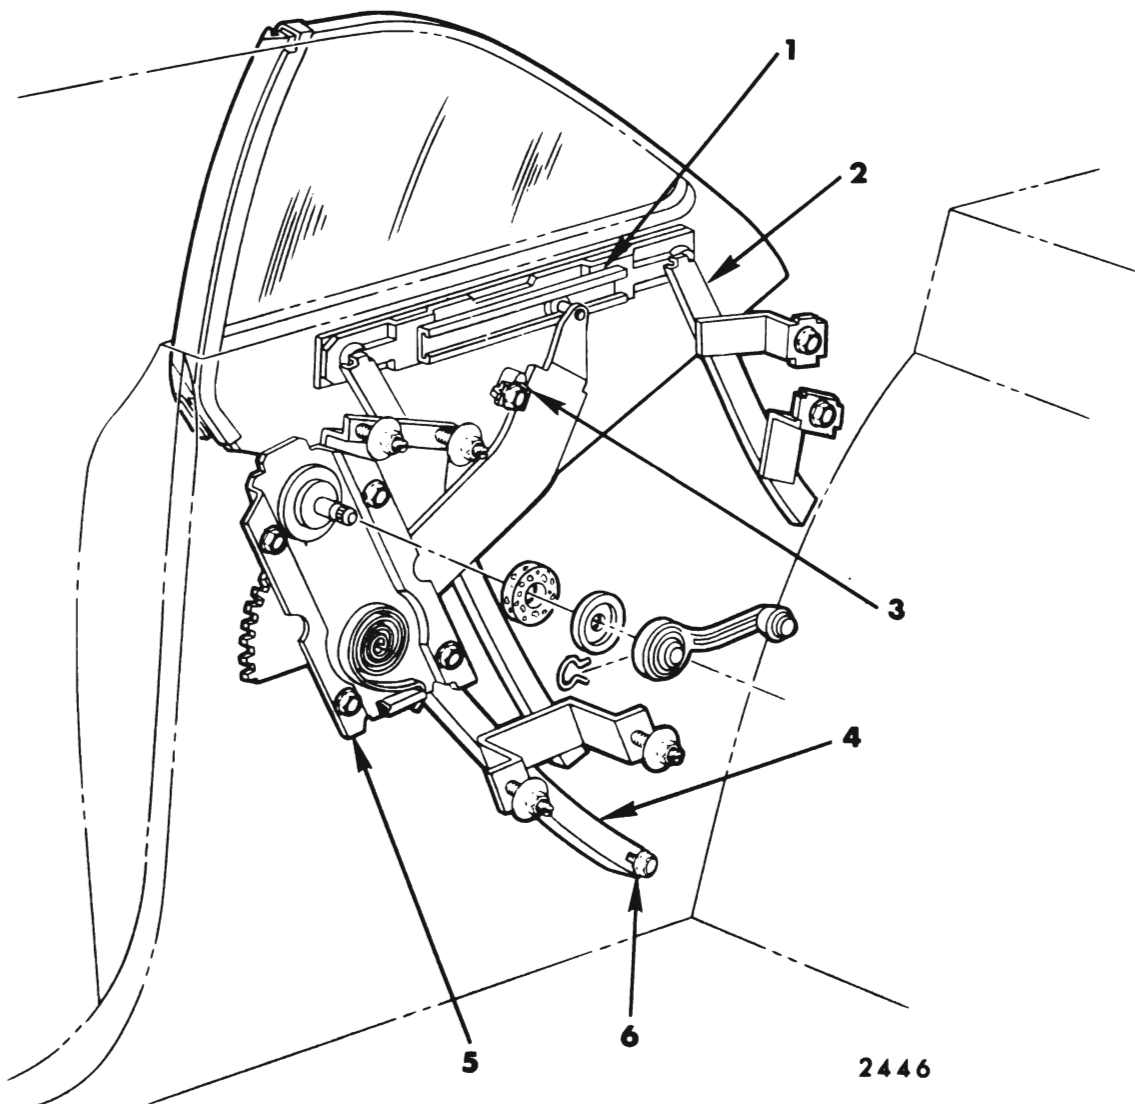

Fig. 7-14—Rear Quarter Hardware - "X-37" Style
5. To limit up-travel of window, adjust window stop as required (see Fig. 7-14).
6. The quarter window front guide is also equipped with an adjustable down-travel stop (see Fig. 7-14).